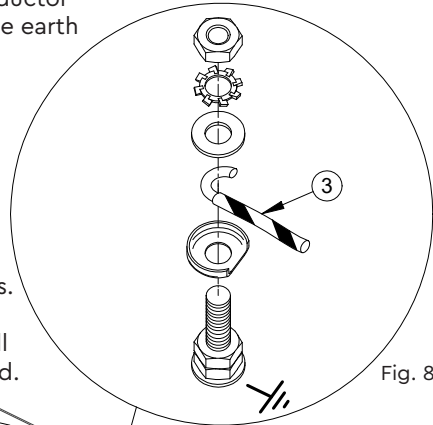

Fig. 8
4. Consolidate the stranded conductor ends by twisting and shape the earth conductor as shown in Fig. 8 (item 3).
5. Remove earth terminal post clamping components and assemble as shown in Fig. 8 ensuring shaped conductor is orientated as shown and all strands of the conductor are clamped between the washers.